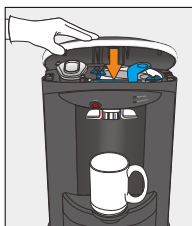

Figure 38
15. Close the top cover of the cooler (Figure 38) (push downwards to lock into place)